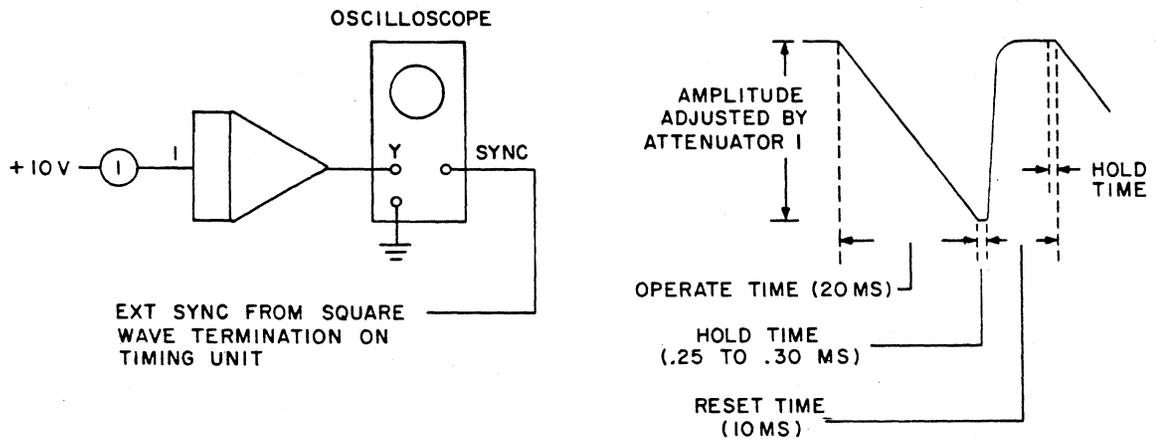
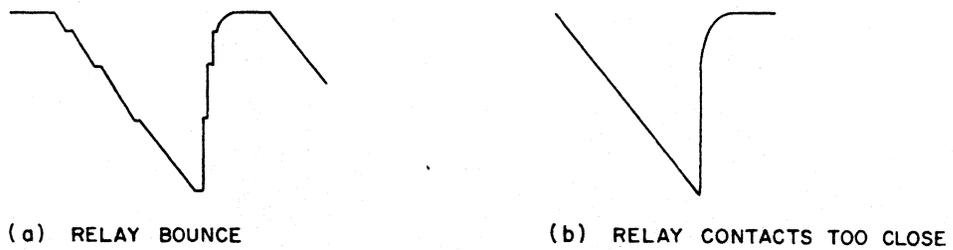

Figure 55. Reset and Operate Time Adjustment
Figure 56. Improper Waveforms
(1) Mount the Timing Unit on a service shelf. Connect an integrator as shown in Figure 55. Set the oscilloscope controls as follows: vertical sensitivity to 1 volt/cm, sweep to 5 millisc/cm (calibrated), use external sync.
(2) Place the Mode Control switch (S5) in the hold position. Place the COMPUTE TIME MILLISEC switch to the 20 position; turn the CALIBRATE VERNIER fully counter-clockwise. Adjust the amplitude of the oscilloscope waveform by varying the setting of coefficient attenuator 1.
(3) The displayed waveform should be similar to the one shown in Figure 55. Adjust R9 in the Timing Unit until the indicated reset time is 10 milliseconds ± 0.5 milliseconds. (The reset time shown in Figure 55 includes a hold time of 0.25 to 0.30 milliseconds before the next compute time.)
- (1) Remove the retaining screws from the front of the Rep Op Control Panel and lift the panel away from the computer. Do not disconnect connector J38.
- (2) Complete Steps (1) and (2) of the reset time adjustment procedure.
- (3) Place the COMPUTE TIME MILLISEC switch to the 50 position. Reduce the input to the integrator (to prevent overload) by varying coefficient attenuator 1. Adjust R2 in the Rep Op Control Panel to produce an operate time of 50 milliseconds $\pm 5\%$.
- (4) Repeat Step (3) with the COMPUTE TIME MILLISEC switch in positions 100 and 200. Adjust R3 on the Rep Op Control Panel for an operate time of 100 milliseconds $\pm 5\%$; adjust R4 for an operate time of 200 milliseconds $\pm 5\%$. In each case, reduce the integrator input.
- (5) Rotate the CALIBRATE VERNIER clockwise and verify a scale expansion of at least 2.5.
The high-speed repetitive relay (K3) in the Model 12.1115 Integrator Network seldom, if ever, requires adjustment during its service life. If adjustment is required, it is recommended that the relay be returned to EAI since adjustment is a tedious task that requires special equipment. Each relay can be checked by performing Steps (1) and (2) of the reset time adjustment procedure. A waveform similar to Figure 55 should be observed. Improper waveforms that might be observed are shown in Figure 56. Relay bounce (small steps) during the reset time may appear but cannot be tolerated during the operate time.